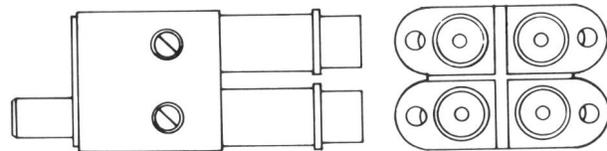

Fig. 22—617A Jack
2.16 617A: The 617A quadruple coaxial-type jack (Fig. 22) consists of four sleeve assemblies set in a common body assembly and enclosed in a metal cover. The sleeve assemblies are modified to permit the wiring of three KS-20810, L1A, resistors. One set of the twin sleeve assemblies is used for transmission and the other is used as a monitoring pad. The jack is designed for solderless crimp connections to a 760A cable. The 617A jack mates with the 440A and 443A plugs. This jack is used in the 4A FM jack field.